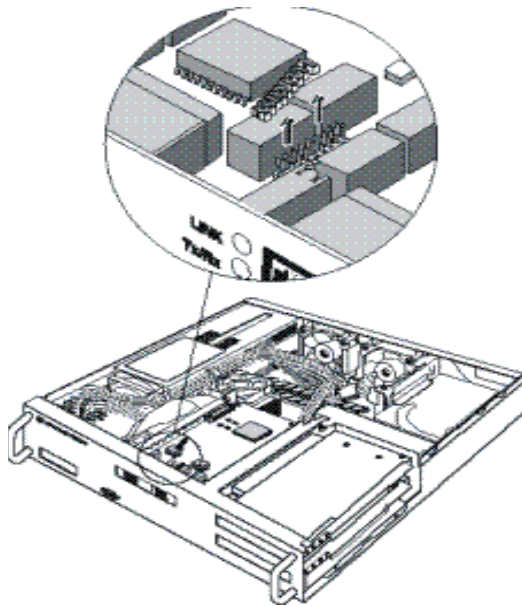

Figure 1-3 Motherboard jumper location
3. Remove nine jumpers from the motherboard. These jumpers are located just behind the inside RJ-45 connector, between two relays, as shown in Figure 1-3.